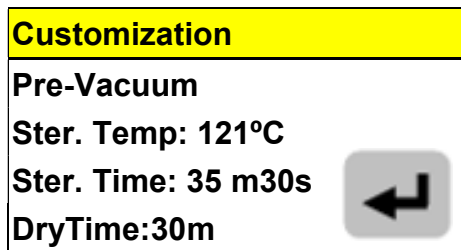

Figure 87
J. Press  or  button until as shown in Figure 87.